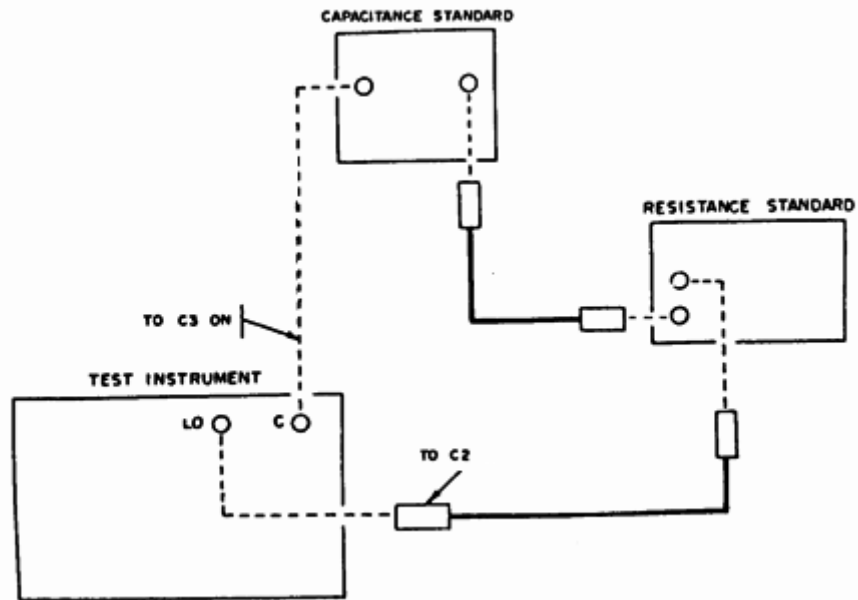

Figure 4. Dissipation - equipment setup.
- (1) Connect equipment as shown in figure 4.
- (2) Adjust resistance standard to 31.85 Ω.
(3) Adjust TI **LRC** dial, **D-Q SERIES** dial, and **DET GAIN** control for best null indication on meter. **D-Q SERIES** - dial will indicate between 1.88 and 2.12.
(4) Repeat technique of (2) and (3) above, using resistance standard settings listed in table 7. **D-Q SERIES** dial will indicate within limits specified.